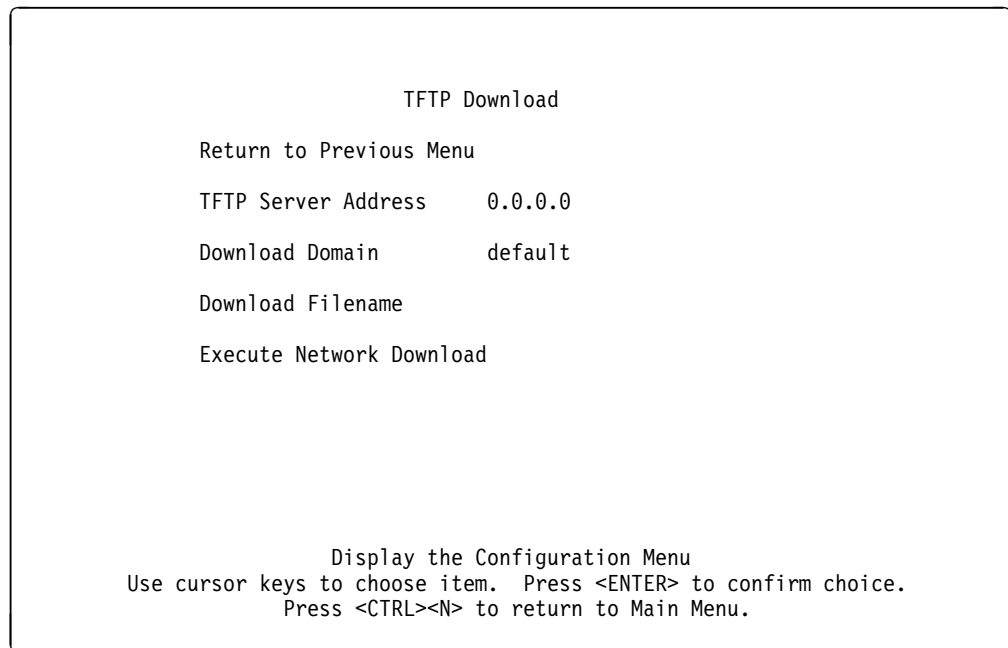

Figure 7-2. TFTP Download Menu
**Step 12. When the TFTP Download Menu appears (see Figure 7-2), fill in the fields and then select Execute Network Download.**